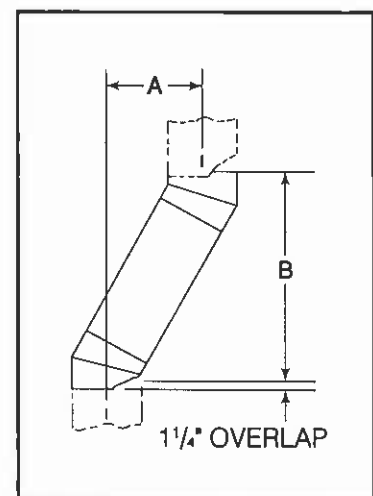

Figure 11
Figure 11 and Table 1 enable selection of the appropriate chimney components when using Offsets and Returns.
- Determine amount of offset required to extend the chimney through a wall or around an obstacle. See Figure 11, dimension "A".